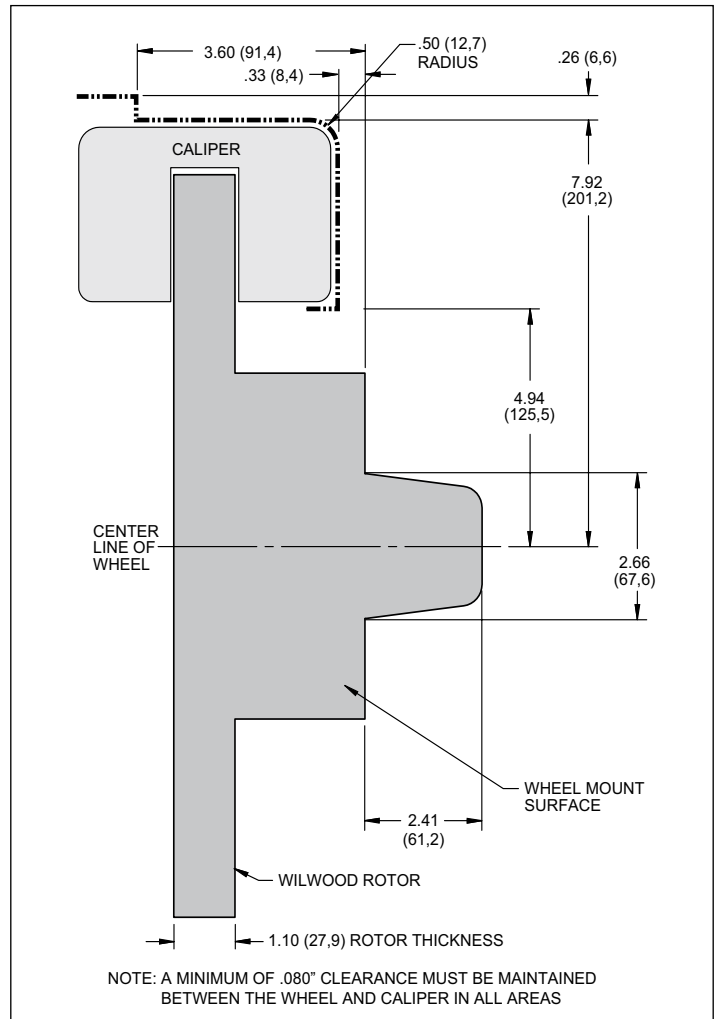

Figure 2. Wheel Clearance Diagram
- Review the wheel clearance diagram (Figure 2, page 4) to verify that there is adequate clearance with the wheels you will be using with the installation.
Verify your wheel clearance using Figure 2.